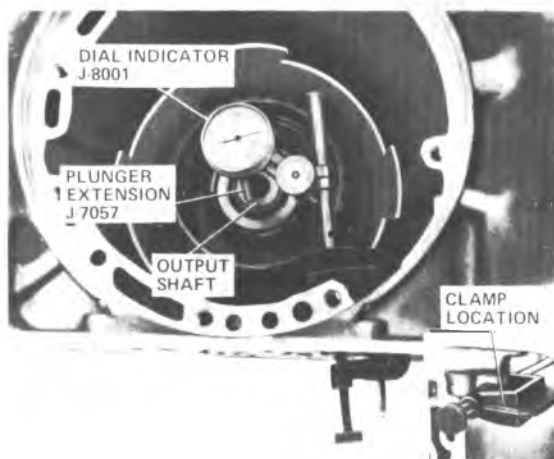

Figure 7A1-41 Checking Rear Unit End Play
6. Remove front sun gear and front sun gear to front carrier thrust bearing assembly. (Figure 7A1-44).